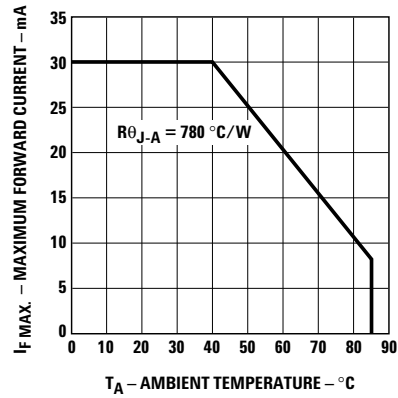

Figure 2. Forward current vs. ambient temperature
1. Derate linearly as shown in Figure 2.